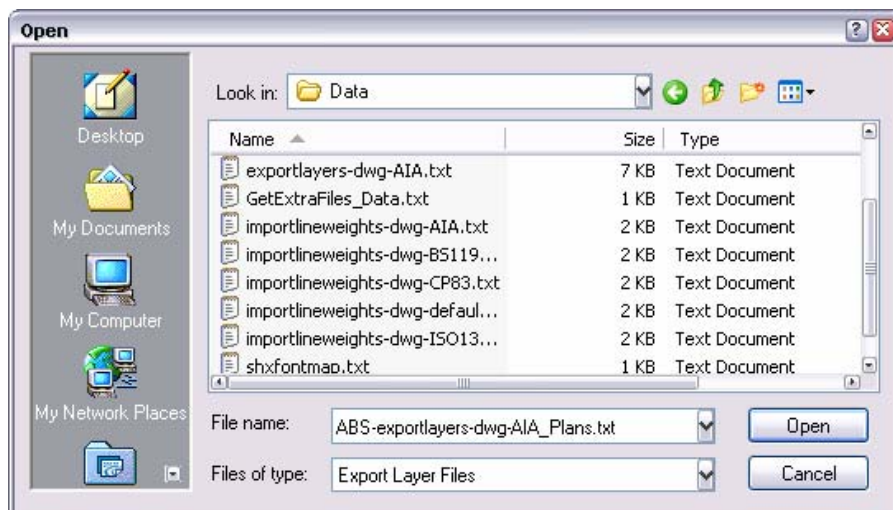

Figure 5
- Select an appropriate layering convention (could also be a copied Export Layer File), perhaps one that adheres to AIA layer naming conventions but is used just for exporting to Building Systems and all layers are set to gray (Color ID 8). See example in Figure 5, "ABS-exportlayers-dwg-AIA_Plans".